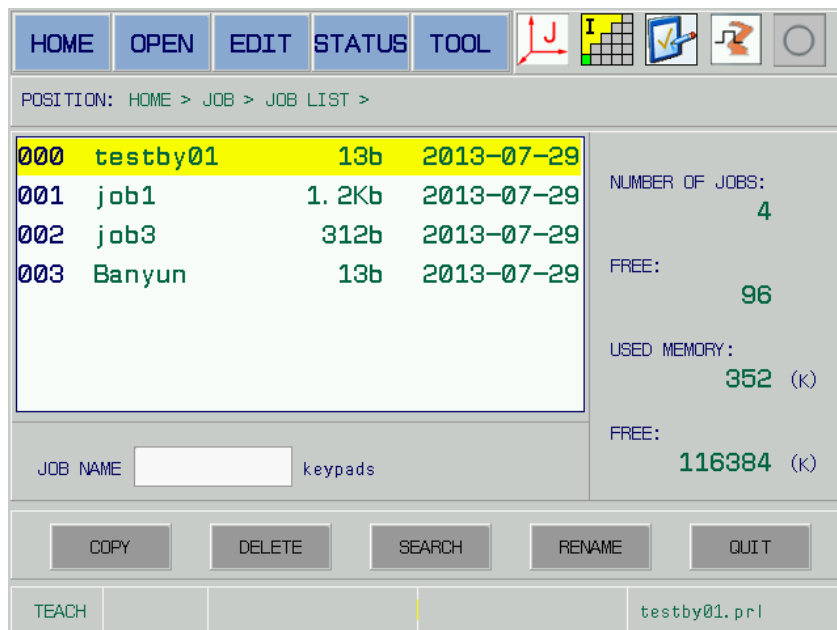

Fig. 5-7
2. Open the {Job list} page by [SELECT]; refer to Fig. 5-7.